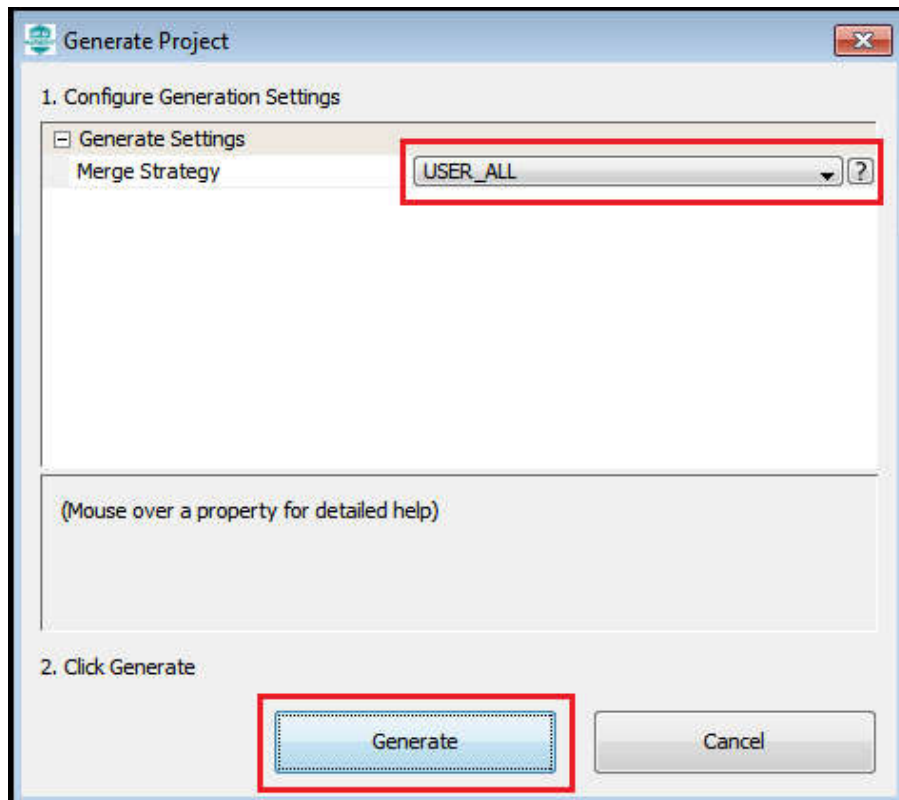

Figure 6-4. Generate Project
2. Generating the project request, and changes merge strategy. See Figure 6-4.